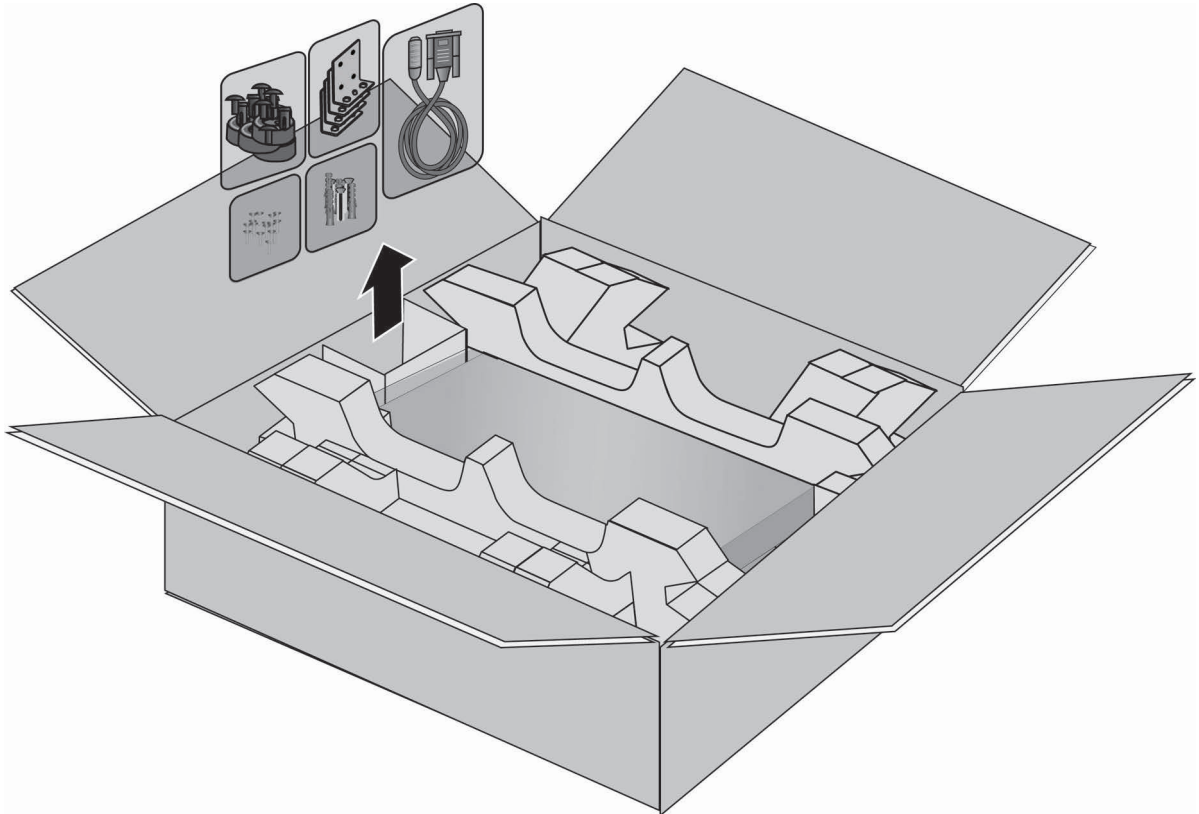

Figure 49. Removing Accessories
1. Remove the accessories and documents from the accessory partition. Refer to Figure 49.